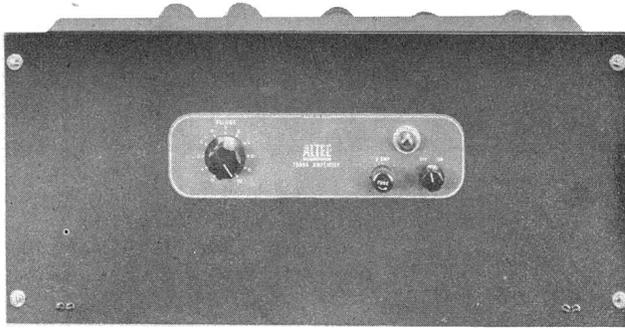

Figure 21 - Altec-Lansing 1569A Power Amplifier
3.40 The Altec-Lansing 1569A power amplifier is shown in Figure 21.